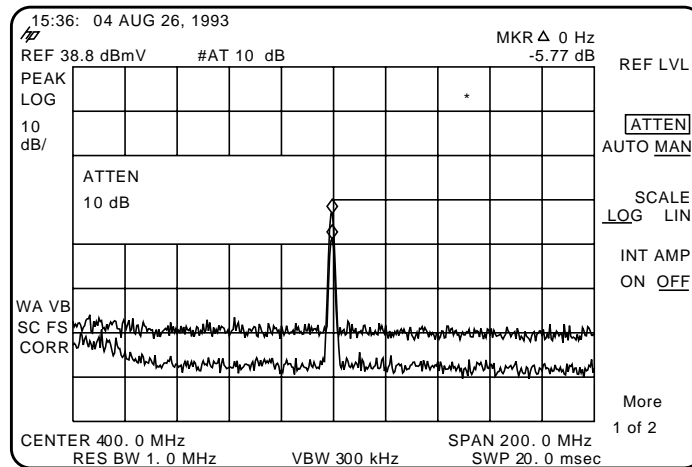
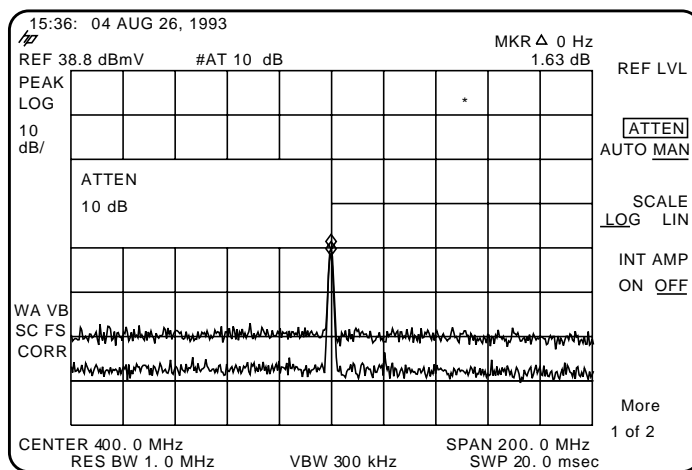

Figure 45 RF Attenuation of 10 dB
Figure 46 No Harmonic Distortion
- 5 Next, increase the RF attenuation by 10 dB: press **(AMPLITUDE)**, **ATTEN AUTO MAN**, and the step-up key (**↑**) once. See Figure 45.
If the responses in trace A and trace B differ, as in Figure 45, then attenuation is required. If there is no change in the signal level, the distortion is not caused internally. For example, the signal amplitude in Figure 46 is not high enough to cause internal distortion in the spectrum analyzer so any distortion that is displayed is present on the input signal.